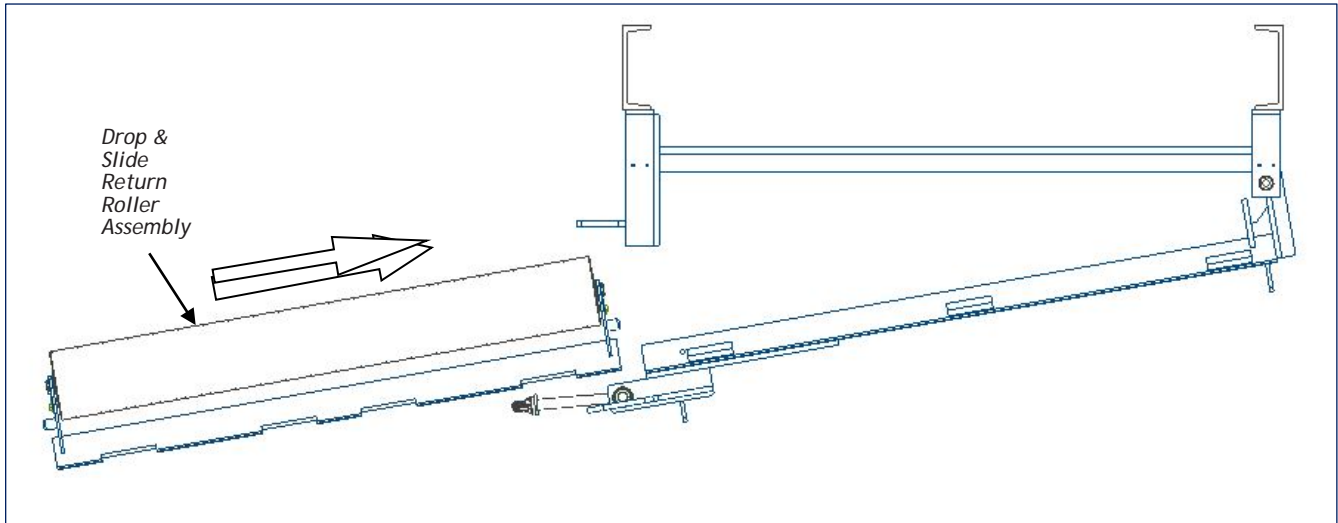

Figure 5
11. Install the Drop & Slide Return Roller Assembly. See Figure 5.